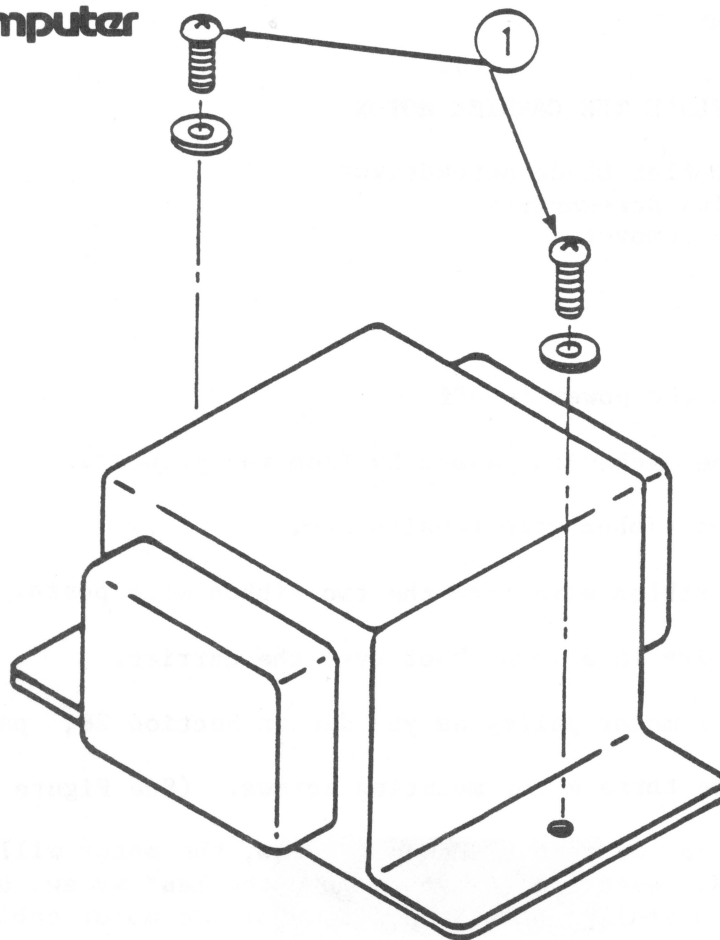

FIGURE 1
2. Remove the two screws from the transformer. (See Figure 1, #1.)